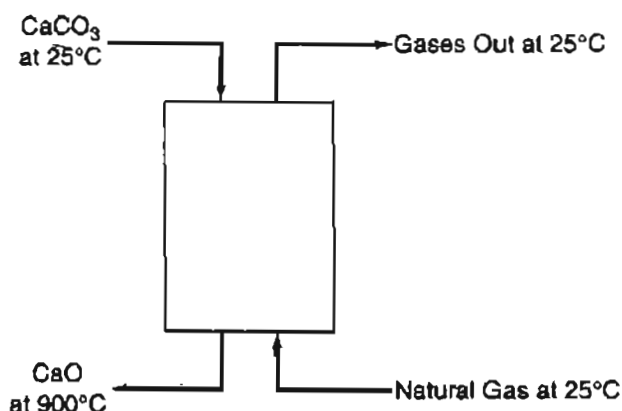

Figure P31.5
- 31.5** Limestone (CaCO_3) is converted into CaO in a continuous vertical kiln (see Figure P31.5). Heat is supplied by combustion of natural gas (CH_4) in direct contact with the limestone using 50% excess air. Determine the kilograms of CaCO_3 that can be processed per kilogram of natural gas. Assume that the following average heat capacities apply: